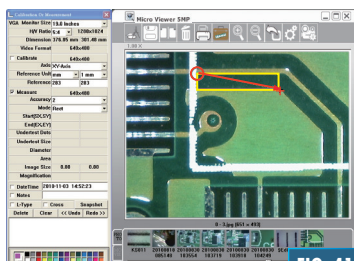

FIG. 41
5. Drag to the lower right of the object (**Fig. 41**).